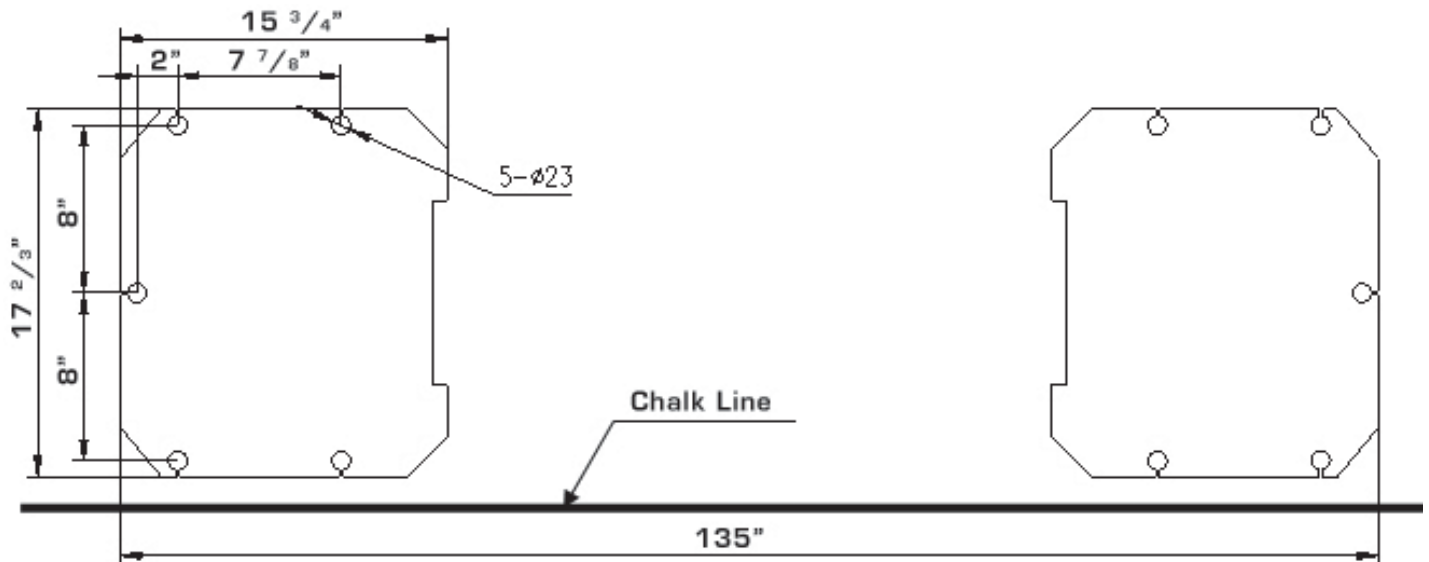

Fig. 5
B. Use a carpenter's chalk line to establish installation layout of base plate (See Fig.5).